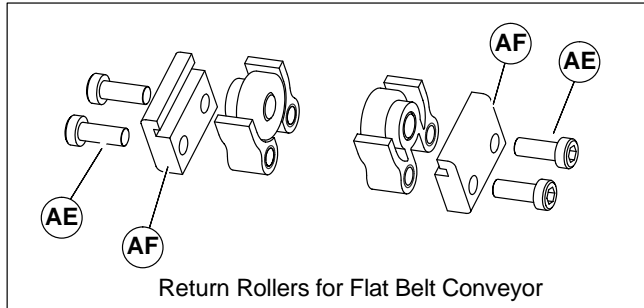

Figure 11
1. Locate return rollers. Exploded views shown in Figures 11.
2. Remove screws (AE of Figures 11) and clips (AF) from roller assembly.